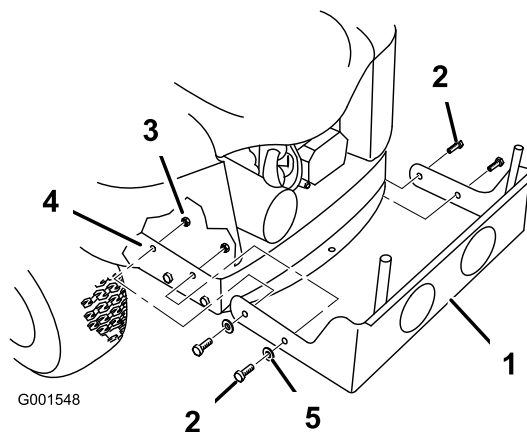

Figure 5
2. Align the holes in the rear frame and the bagger mounting bracket (Figure 5).
3. Secure the bagger mounting bracket to the rear frame with 4 bolts (3/8 x 1 inch), 4 washers (3/8 inch), and 4 locknuts (3/8 inch) (Figure 5).